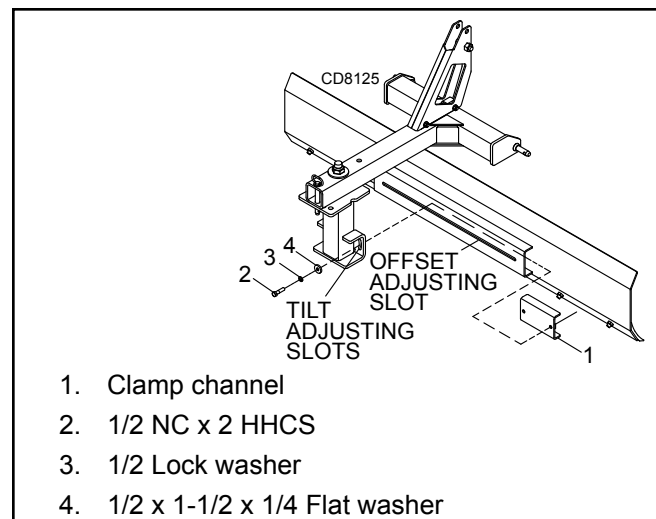

Figure 4. Moldboard Offset and Tilt Adjustment
Loosen bolts (2) but do not remove. Tilt moldboard to desired position. Figure 4.
Loosen bolts (2) but do not remove. Slide moldboard along offset adjusting slot until desired offset is obtained. Figure 4.
Angle blade to bring lower end forward. Bring lower point near the center line of the rear wheel track using 3-point hitch height adjustment. Figure 4.